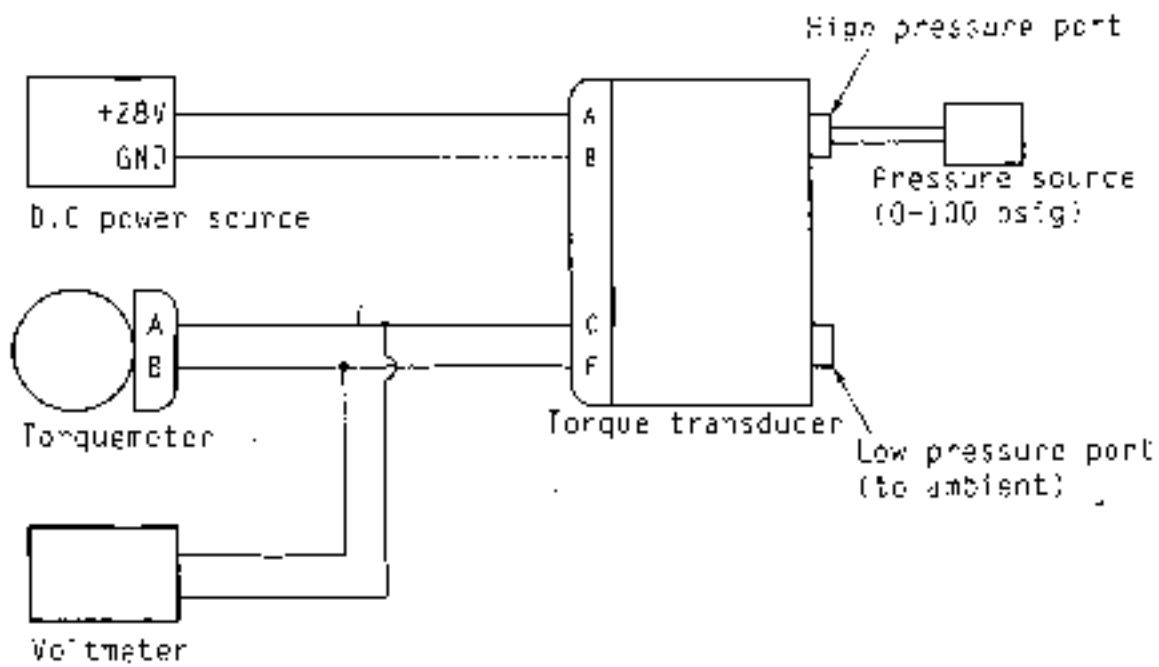

Fig 10-16B Test setup for torque transducer
- (2) Check torque transducer.
- (a) Connect the torque transducer as shown in Fig 10-16B.
(3) Torque transducer calibration
- (a) Connect the torque transducer as shown in Figure 10-16B.